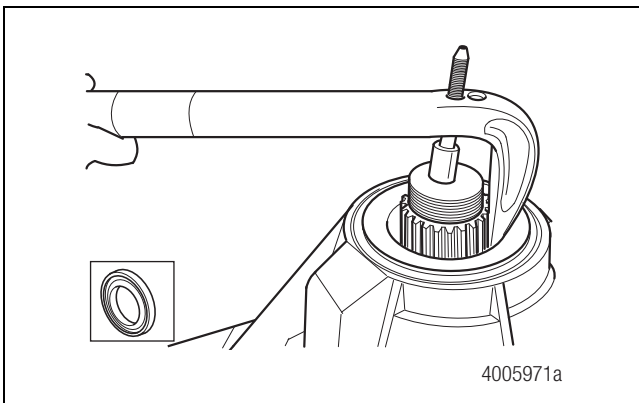

Figure 7.6
7. Use a seal puller or other suitable tool to remove the seal. Discard the seal. Figure 7.6.